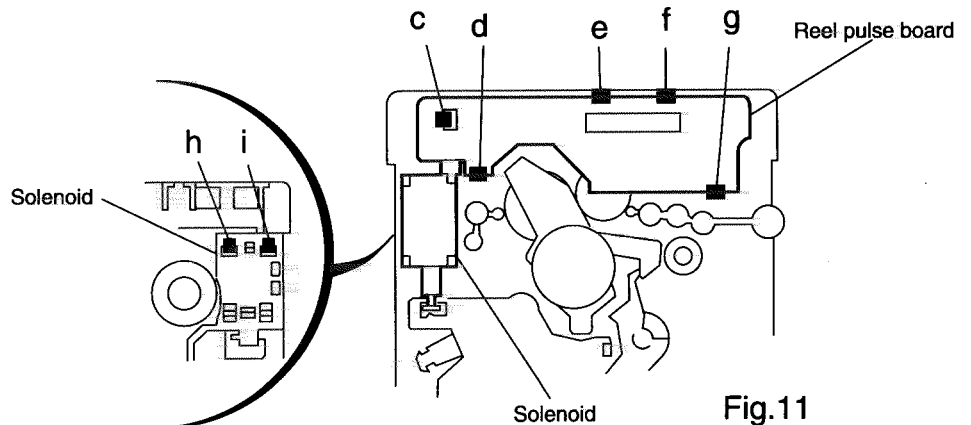

Fig.11
■ Removing the Reel Pulse P.C.Board and Solenoid (See Fig. 11)